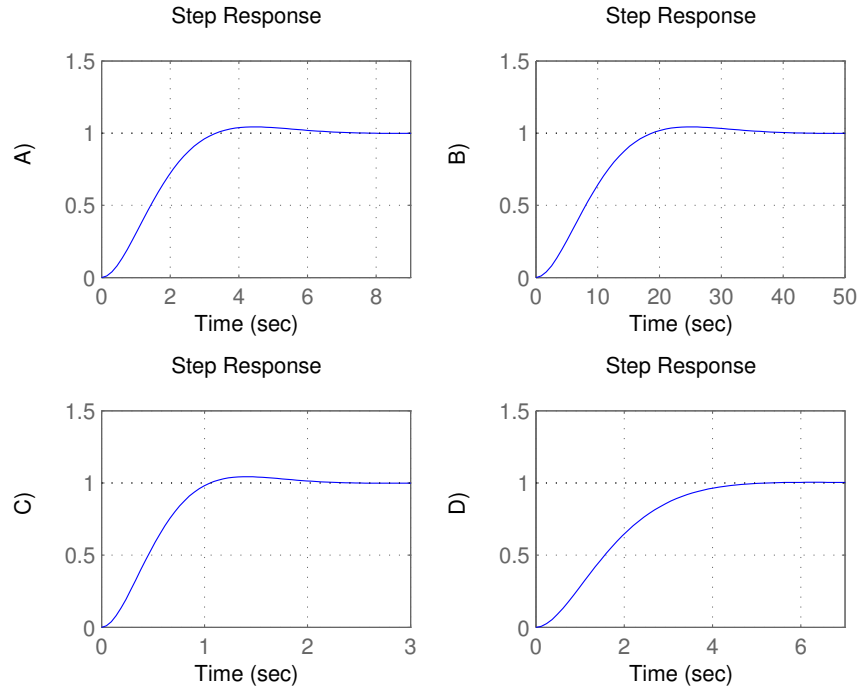

Figure 8.1 Step responses for LQ-control of the system in Problem 8.6 with different weights on Q_1 , Q_2 .
- c. The four plots in Figure 8.1 show the step responses of the closed-loop system for four different combinations of weights, Q_1 , Q_2 . Pair the combinations of weights given below with the step responses in Figure 8.1.